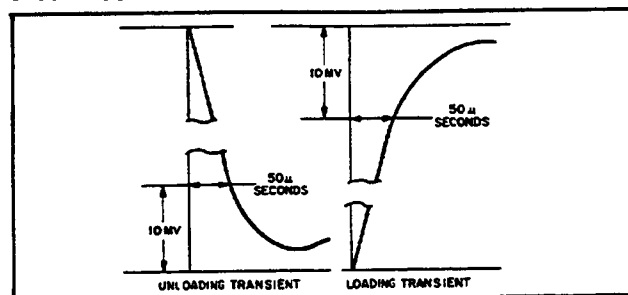

Figure 5-9. Transient Recovery Time, Waveforms
- Adjust 25KΩ potentiometer until a stable display is obtained on oscilloscope. Waveform should be within the tolerances shown on Figure 5-9 (output should return to within 10mV of original value in less than 50 microseconds).